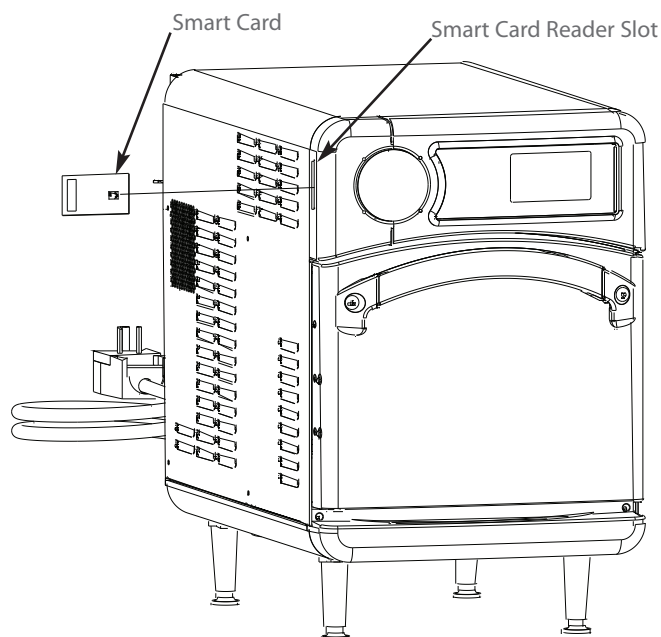

Figure 24: Inserting Smart Card
3. Insert the smart card (Figure 24).
1. Insert the gray smart card "1 of 3" (Figure 24).